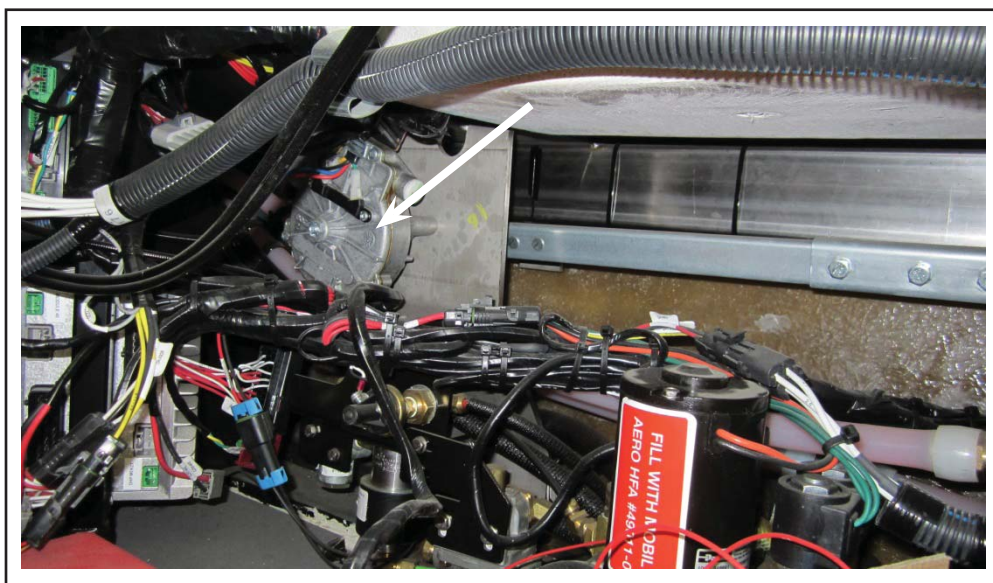

Figure 2 - Location of Wiper Motor Under the Front Dash
- 1.3. Locate the wiper motor under the front dash. See Figure 2.